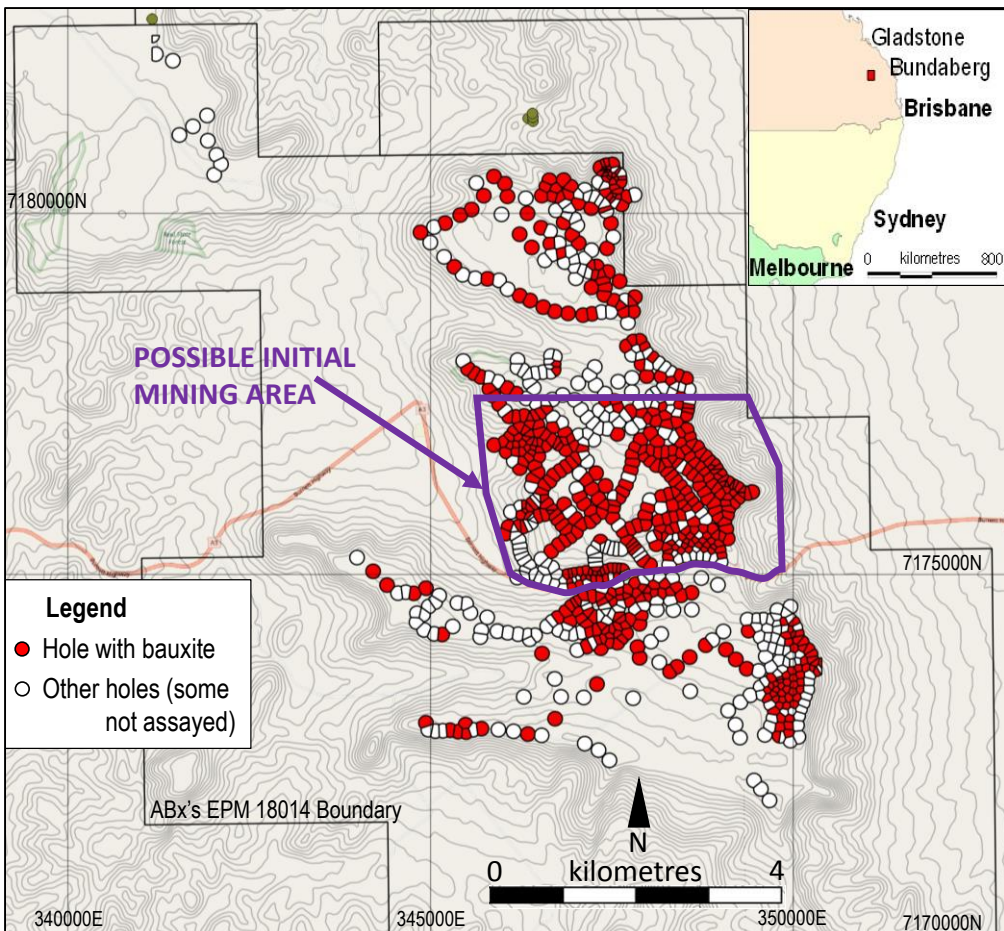

Figure 2
- Based on 930 drill holes into approximately 75% of the identified bauxite layer that extends over 44 square kilometre Binjour Plateau (Figure 2)
A 3 to 15 metres thick layer of bauxite extends over the entire 44 square kilometre Binjour Plateau (see Figure 2). Parts of this bauxite layer totalling 10.4 million tonnes is suitable for simple bulk-mining and shipping as "DSO Bauxite ¹" whilst other areas totalling 26.6 million tonnes contain silica gel veinlets which require processing with ABx's proprietary TasTech technology to reduce silica and upgrade the Al₂O₃ content to meet the target production grade.
ABx has two granted exploration permits-mining EPM 18014 Binjour and EPM 18772 Binjour Extension covering the Binjour Plateau. Resources estimated and reported herein are **all in EPM 18014** as shown in Figure 2 above. All tenements are in good standing and are unencumbered.